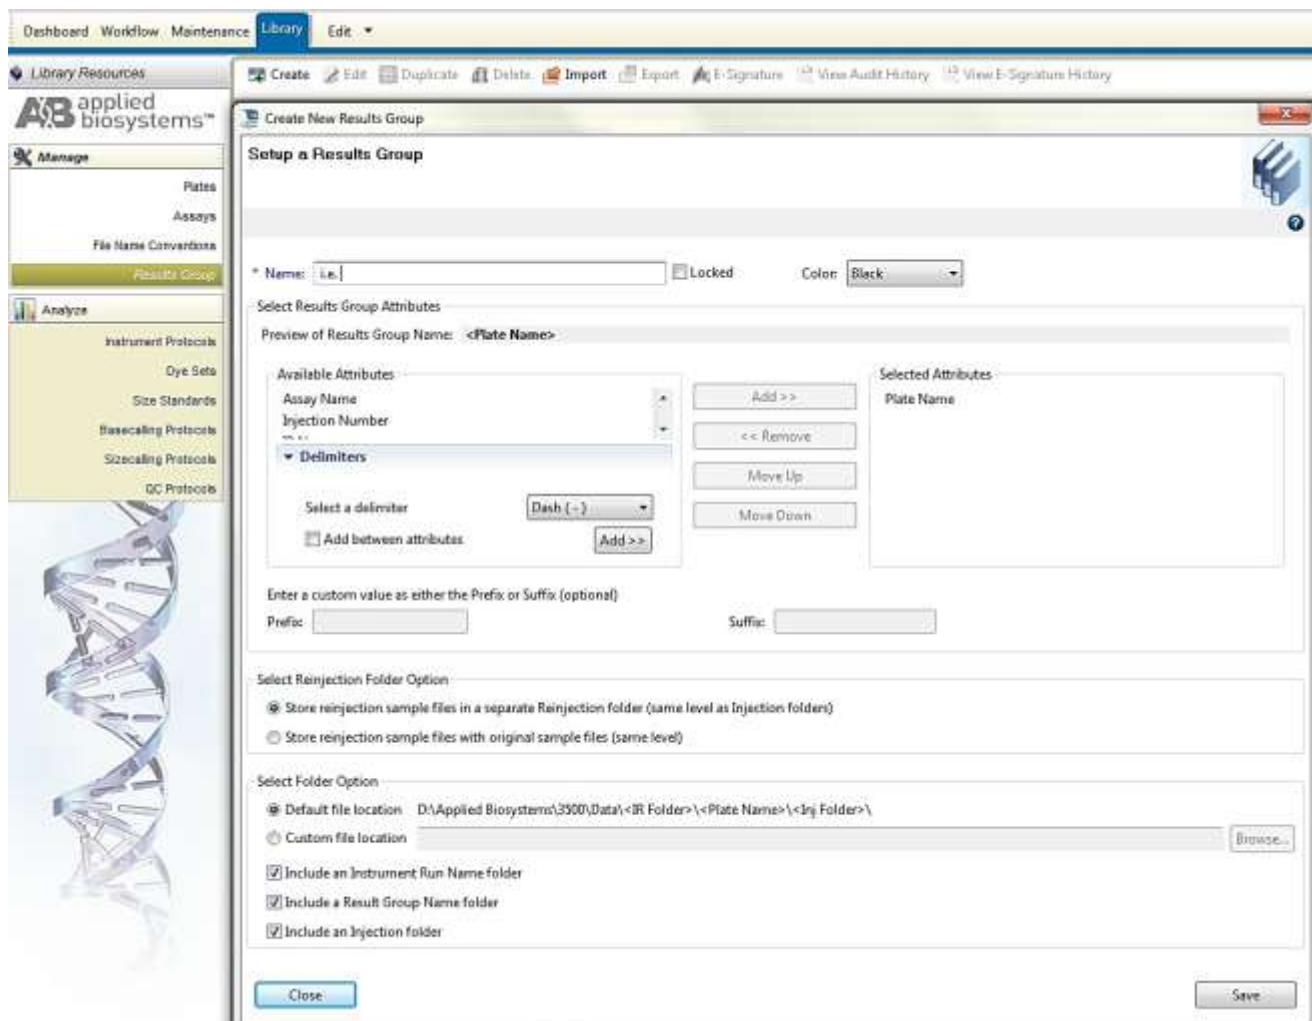

Figure 11- Screenshot for the “Create New Result Group” window on Applied Biosystems 3500 Data Collection software
3. Select “Create” (Figure 11).